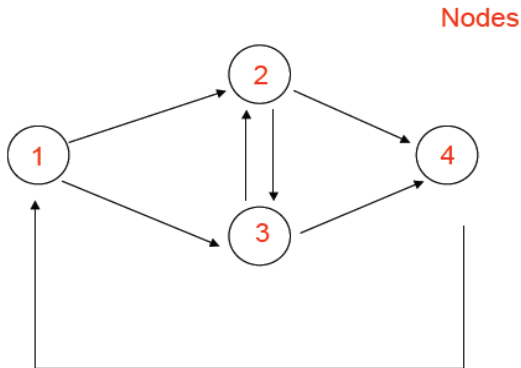

Figure 1
**Example 1.** Figure 1 describes a network  $\mathcal{G}$  with  $\mathcal{N} = \{1, 2, 3, 4\}$  and